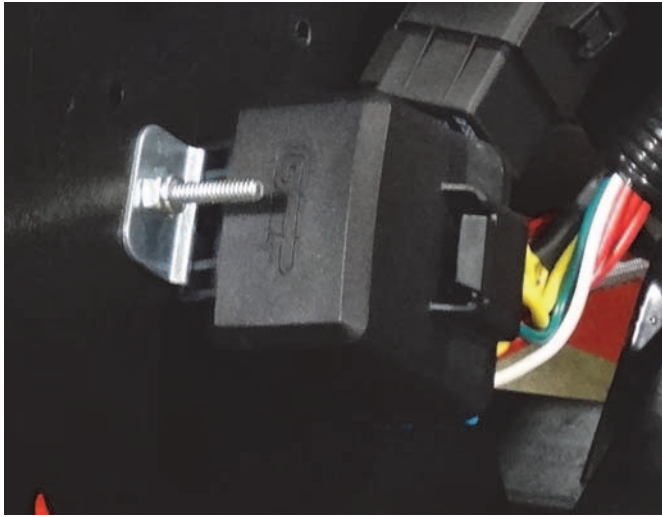

Fig. 6 Fuse Block
5. Check the fuse (Ref. Fig. 6).